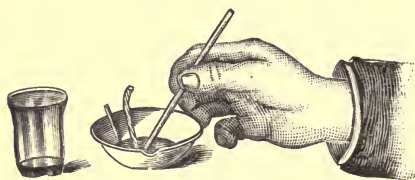

Fig. 24.
(Fig. 24). Dip the end of a strip of blue litmus paper into it. State results. (2) Rinse the e.d., then put in a few drops  $\text{HNO}_3$  and 5cc  $\text{H}_2\text{O}$ , stir and test as before. (3) Test